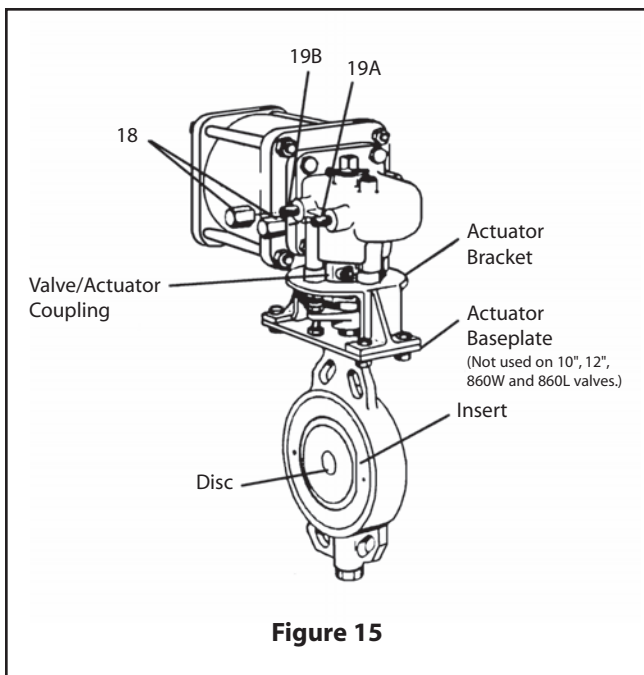

Figure 15
11. If the handle ratchet plate or the actuator base plate has been removed from the valve, reinstall it in the orientation shown in **(Figure 15 or Figure 17)**. Install lockwashers and screws in the two bonnet holes not used by the studs and install the lower lockwashers (16) and nuts (15) on the studs. Do not tighten the screws and nuts until the stops are set (see **SETTING ADJUSTMENTS** Section).
12. Install blowout spacer (75) (3", 4" and 6" [DN 80, 100 and 150] 860 **ONLY**). Place the compression plate (10) over the shaft (4) and studs (14). Orient the plate so that the indicator pointer will be over the indicator plate. Install the lockwashers (16) and nuts (15), but do not tighten. Install the indicator pointer in the shaft.
13. Install the lower bearing spacer (43), when applicable. Place the plug seal (42) in the recess at the bottom of the valve and install the plug (11). Torque the plug until it is flush with the body. A small (1/16" [1.6 mm]) tack weld on the corner of the plug is recommended. **CAUTION:** A larger tack weld is apt to have enough heat to damage the seal.
If it is necessary to orient the actuator in a different quadrant **(Figure 15 and 16)**:
7.4 Setting Stops on ST and ST-MS Pneumatic Actuators (Figure 15)